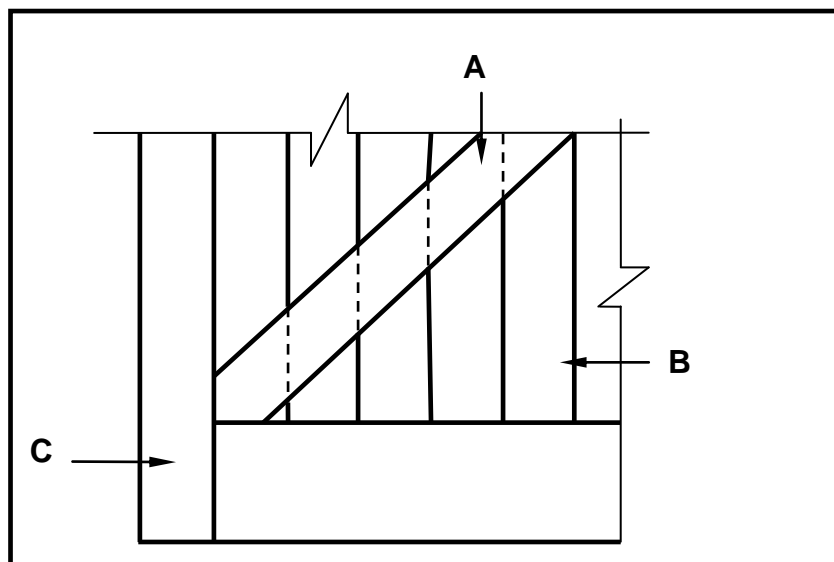

FIGURE 6.9
6.9 Study FIGURE 6.9 below which shows the inside bottom corner of a framed ledge and braced batten door. Identify members **A** to **C**.